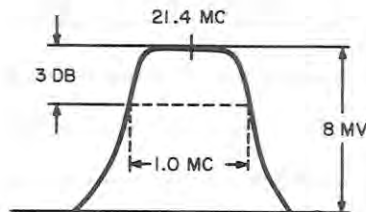

Figure 5-10. 21.4 mc Preamplifier Response
- g. Adjust L1, L2, L3, and L4 located on the top of the preamplifier subchassis for maximum symmetrical response centered around the 21.4 mc marker. The desired preamplifier response characteristics are illustrated in Figure 5-10.